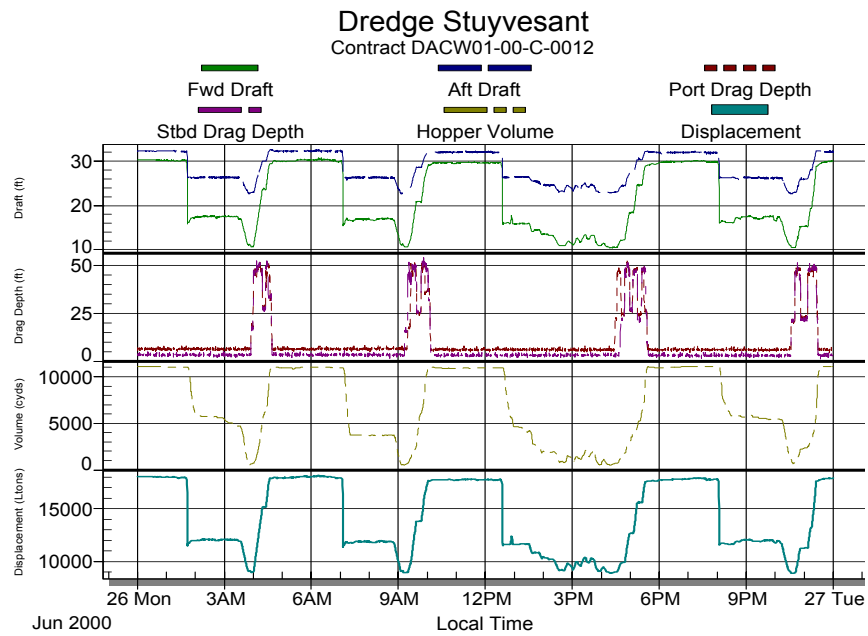

Figure 2.6 Typical Data Plot
5. Click the **Plot** button at the bottom of the command window. The data will now be plotted as shown in Figure 2.6.